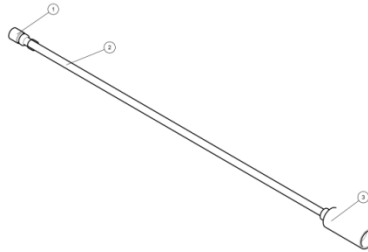

Figure 8 Agility Fuel Systems 20100021 fuel transfer hose.
2. Attach the defuel hose (see Figure 8) to the vent stack system.